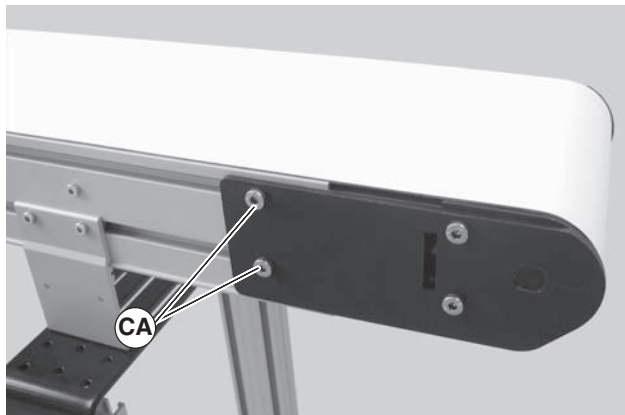

Figure 47
1. On the side of conveyor which the belt is tracking towards, loosen the head plate fastening screws (Figure 47, item CA).
3. Re-tighten the head plate fastening screws (Figure 47, item CA) with a 5 mm hex-key wrench to 146 in-lb (16.5 Nm).